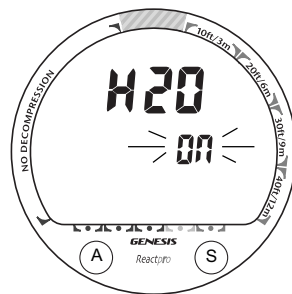

Fig. 28 - Set Wet Activation
- While viewing the Set 2 screen, press/release the A (left) button 10 times (< 2 sec each time), the Set Wet Activation screen appears with the Set Point flashing (Fig. 28).